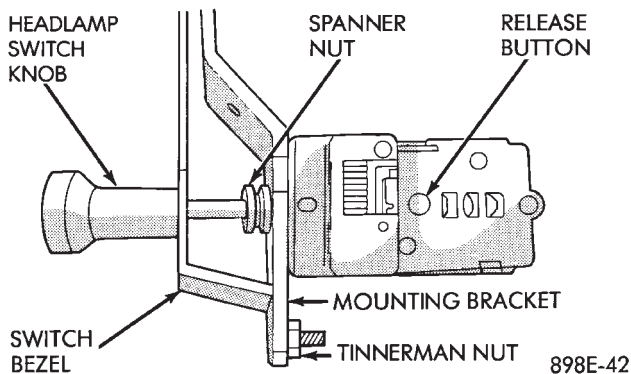

Fig. 8 Headlamp Switch—Typical
- (1) Disconnect battery negative cable.
- (2) Place headlamp switch control knob in the headlamp ON position.
- (3) Depress the switch shaft release/retainer button via the underside of the instrument panel. Pull the switch control shaft knob outward.
- (4) Remove the headlamp switch spanner nut from the front of the instrument panel (Fig. 8).
- (5) Disconnect the wire harness connector from the switch.
- (6) Remove the headlamp switch from the instrument panel.